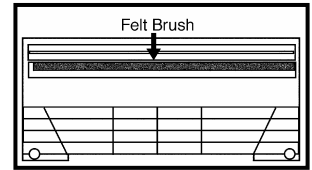

Figure 5
5. Carefully clean the charging brush with compressed air (Fig. 5). **Note:** Do not touch or vacuum the brush.
9. Install the two (2) philips head screws that hold the toner hopper to the cartridge shell and push the two (2) drum hubs back in place.
10. Install the two (2) philips head screws that hold the drum hubs in place.